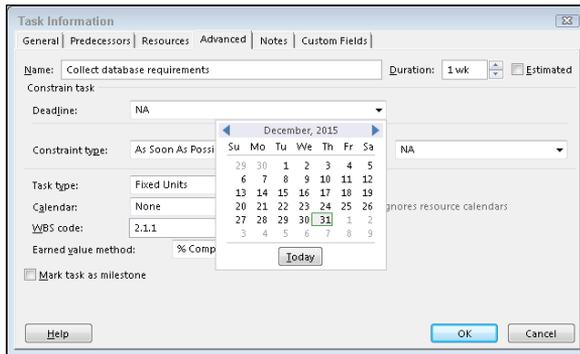

Figure 5-4:
3. Click the drop-down arrow in the Deadline field (shown in Figure 5-4) to display a calendar and then select a date.